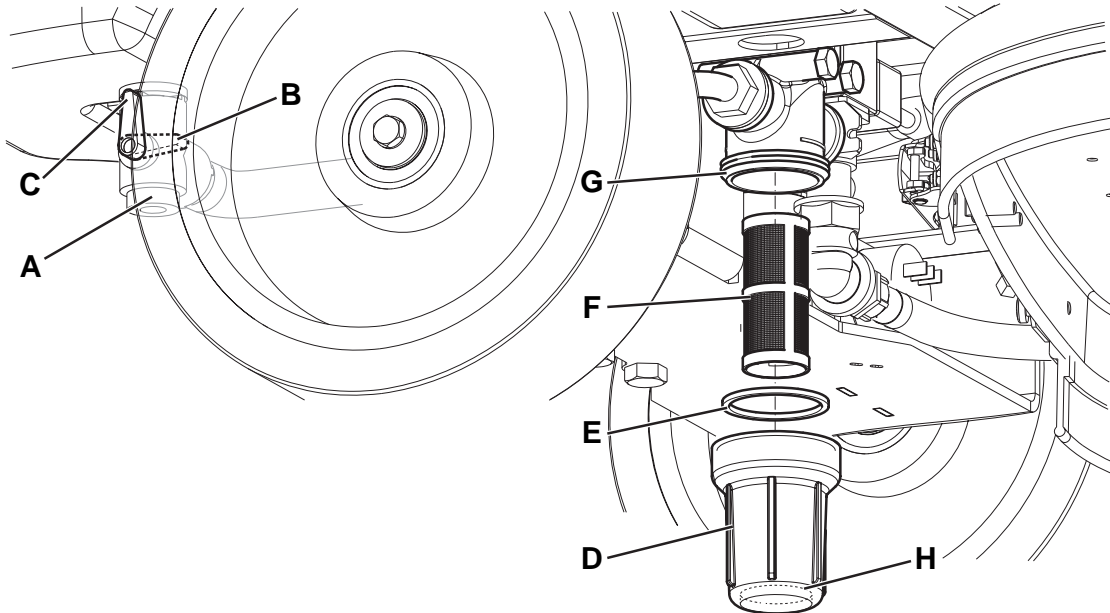

Figure 10
2. Turn the ignition key (58) to "0".
3. Close the solution tap (A, Fig. 10) under the machine, behind the right rear wheel. The tap (A) is closed when it is in the position (B) and it is open when it is in the position (C).
4. Remove the transparent cover (D) and the gasket (E), then remove the filter strainer (F). Clean them with water and install them on the support (G).